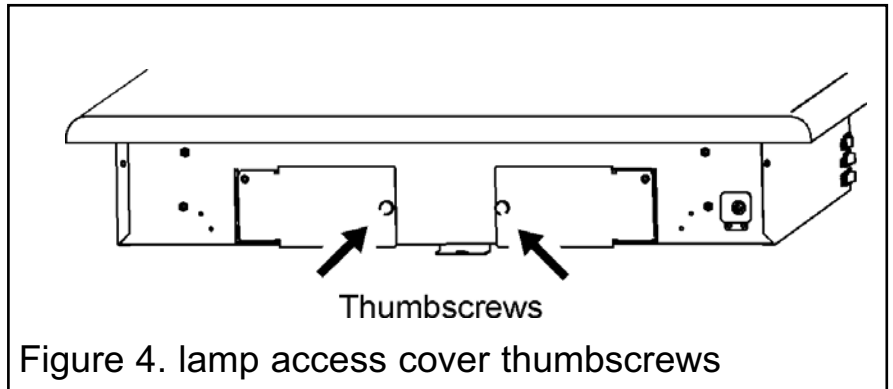
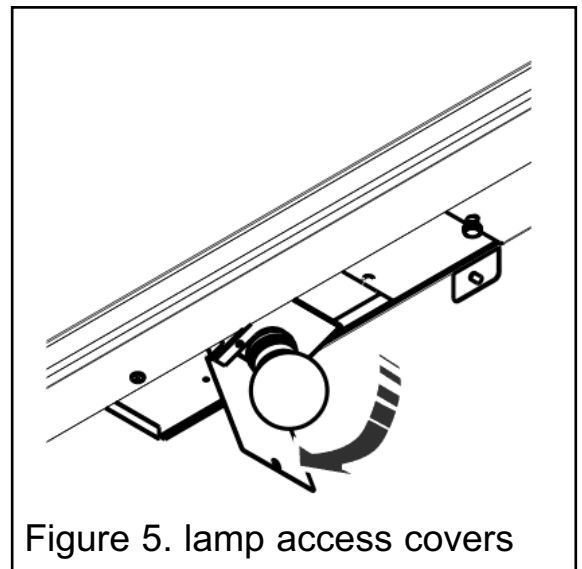

Figure 4. lamp access cover thumbscrews
Figure 5. lamp access covers
- There are two thumb screws (See figure 4) that secure the lamp access covers. To gain access to the lamps unscrew the thumb screw and lower the access panel (See figure 5).